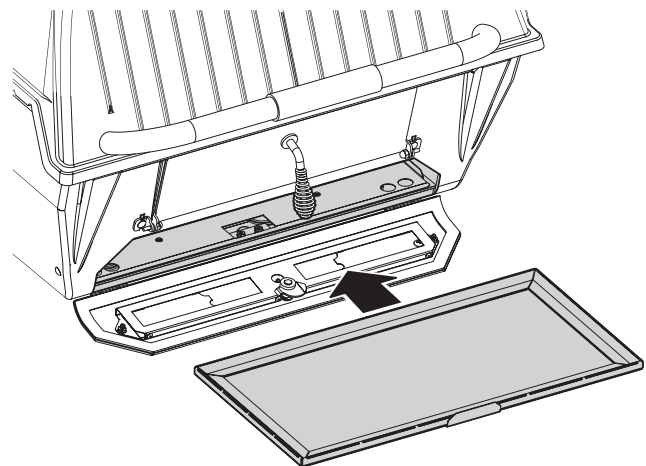

Figure 15
1. Open the lower access door and slide the ash pan into place and close and latch the door. See Figure 15.